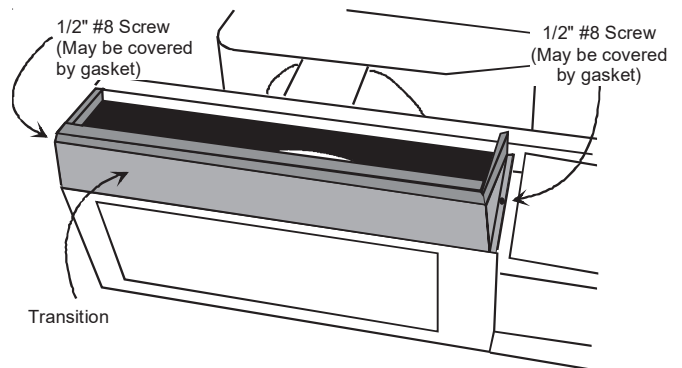

Figure 4
4. Mount the transition to the chassis with two 1/2-inch #8 supplied screws (Figure 4).